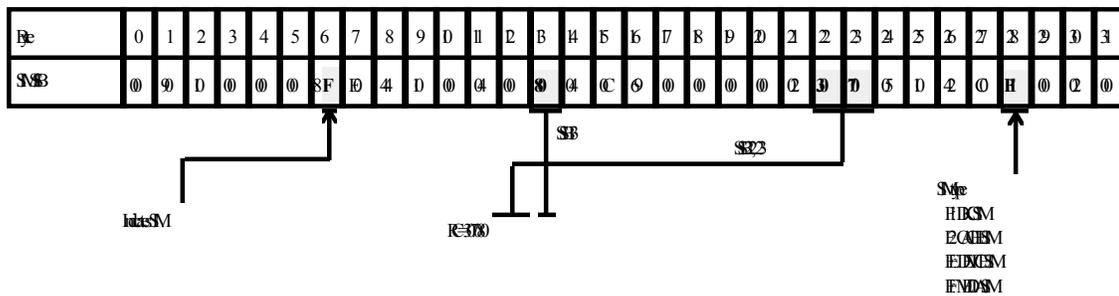

Figure 5.13 Typical SIM Showing Reference Code and SIM Type
Figure 5.13 illustrates a typical 32-byte SIM from the ST9990V. SIMs are displayed by reference code (RC) and severity. The six-digit RC, which is composed of bytes 22, 23, and 13, identifies the possible error and determines the severity. The SIM type, located in byte 28, indicates which component experienced the error.